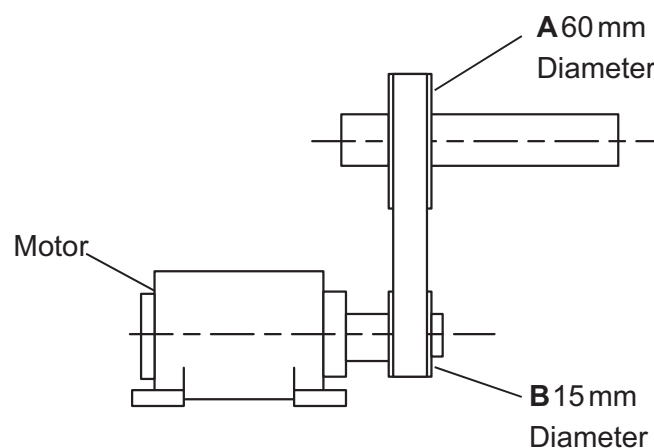
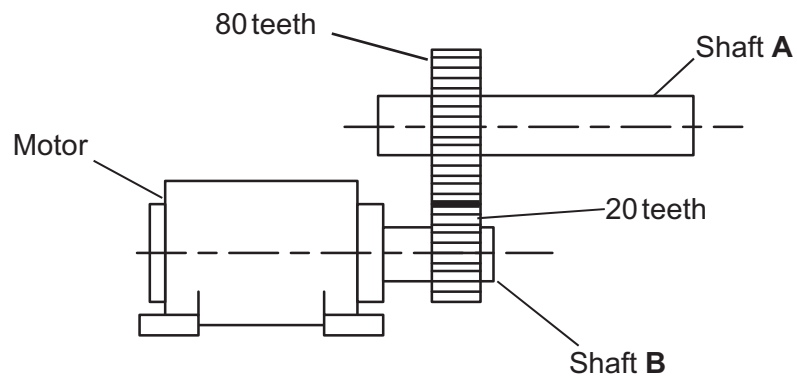

Fig. 1
Fig. 2
(b) Fig. 1 shows a mechanism for transmitting power to a shaft.
(i) Name the mechanism shown in Fig. 1.
(ii) Identify which one, **A** or **B**, is the input or the output of the system in Fig. 1 shown above.
(iii) The motor in Fig. 1 runs at 2200 rev/min. Calculate the output speed of this system.
(c) Fig. 2 shows a different method for transmitting power to a shaft.
(i) Name the mechanism shown in Fig. 2.
(ii) Outline **one** advantage and **one** disadvantage of this method compared to that in Fig. 1.
(iii) Calculate the motor speed in Fig. 2 if the speed of shaft A is 215 rev/min.
- (iv) Explain how the transmission in **Fig. 2** could be changed so that shaft **A** and shaft **B** rotate in the same direction.
- (vi) **Fig. 1** and **Fig. 2** show two possible methods of transmitting power between two shafts. Suggest **one** other method that could be used.
- (vii) A large reduction of speed is required between the two shafts in **Fig. 2**. Suggest **one** suitable method to achieve this large reduction in speed.